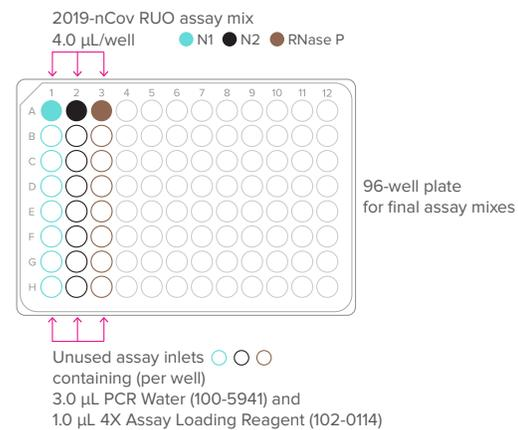
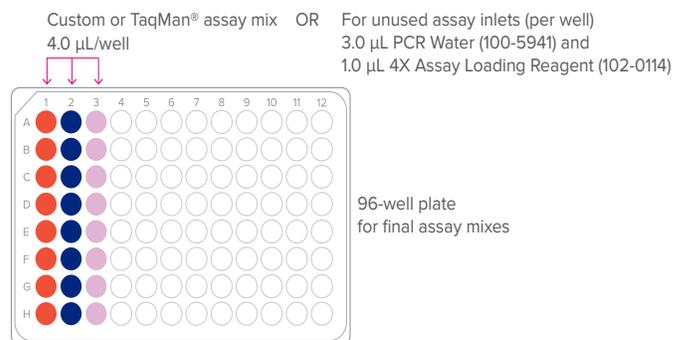

Figure 2. Final 2019-nCoV RUO assay mixes plate (per-well transfer volumes)
Figure 3. Final custom and TaqMan Gene Expression assay mixes plate (per-well transfer volumes)
- If using 2019-nCoV RUO assays (6.7 µM primers, forward and reverse; 1.7 µM probe), use components in Table 7 as shown in Figure 2.
- If using custom assays (100 µM primers, forward and reverse; 100 µM probe), use components in Table 8 and shown in Figure 3.
- If using 20X TaqMan® Gene Expression Assays (18 µM primers, forward and reverse; 5 µM probe), use components in Table 9 and shown in Figure 3.
- 3 Pipet 4.0 µL of each assay stock into the respective wells in a new 96-well plate as shown in Figure 2 (for 2019-nCoV RUO assays) or Figure 3 (for custom or TaqMan assays).